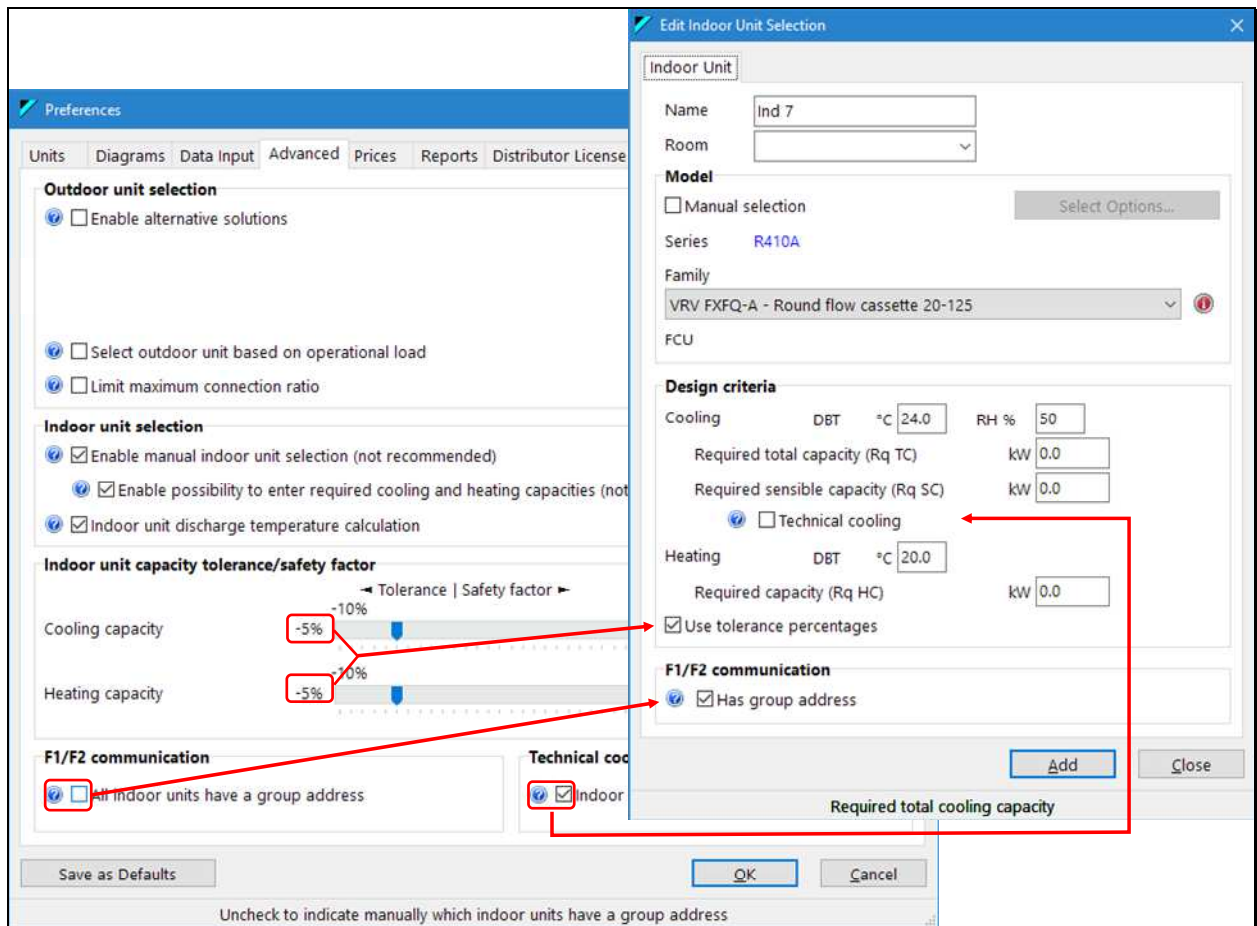

Figure 126: Defining addresses, technical cooling, tolerances and safety factors
Figure 126 shows the address and technical cooling settings, together with the tolerance and safety settings in the “*Advanced*” tab and the changes they cause in the indoor unit edit window:
- The “*All indoor units have a group address*” checkmark in Figure 126 is checked by default.
- When you uncheck it, the indoor unit edit window shows the “*Has group address*” checkmark, which is checked by default, equally shown in Figure 126.
- When defining a tolerance (the setting in Figure 126 shows tolerances of -5%), the indoor unit edit window shows a "**Use tolerance percentages**" checkmark, that is checked by default. This means that VRV\_Xpress will **reduce** the required capacities by 5% and select the indoor unit with these deviated required capacities.